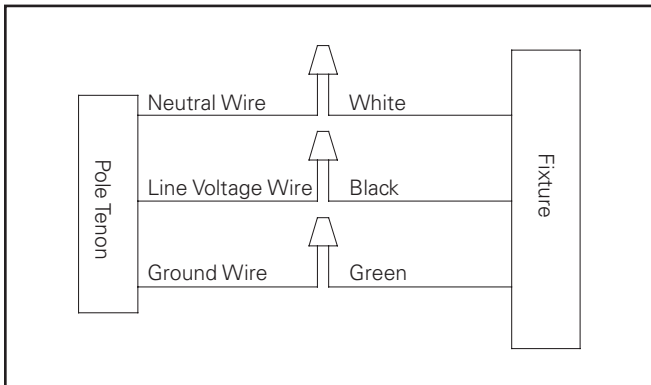

Figure 1. Universal Voltage Single Phase System
- 2a. Connect supply wires to appropriate luminaire leads. (Figure 1.)